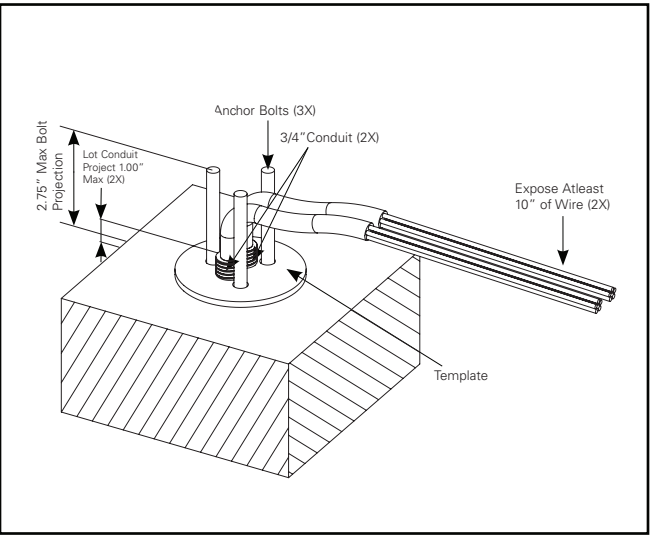
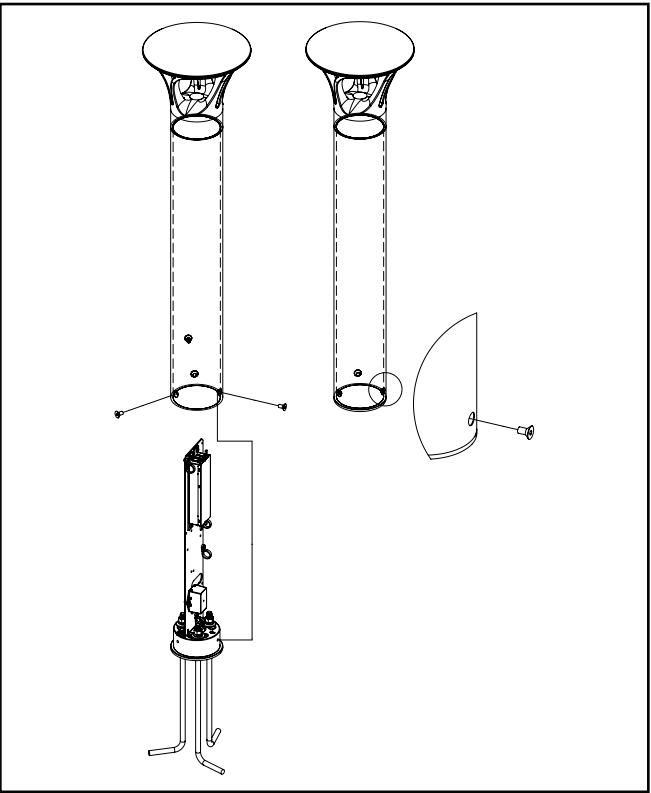
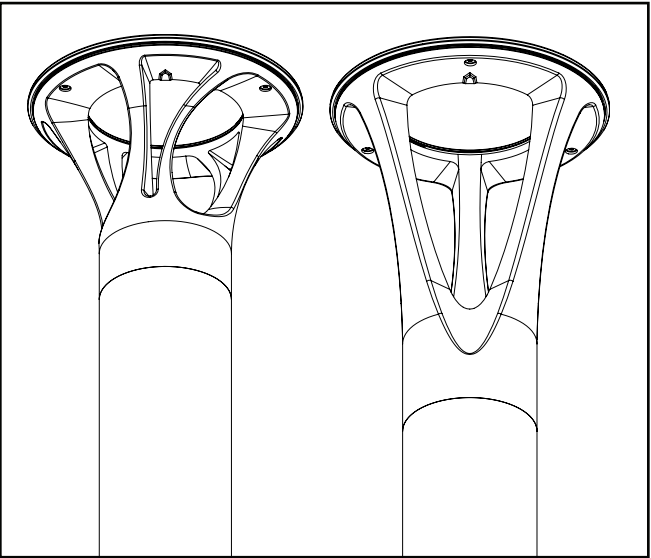

Figure 1.
Figure 4.
Figure 5.
How to Install (Figure 1. - Figure 5.)
1. Install foundation anchors and conduit using supplied anchor template as illustrated noting the intended orientation of the fixture (Figure 1.)
10. Reconnect wiring quick connect if applicable. Then lift fixture and slide it over base driver assembly and align bottom holes with base extrusion (Figure 4) as well as the orientation arrow on the light head. Note that the arrow on the Arbor head should aim towards STREET SIDE and the arrow on the LuxeScape head should aim towards HOUSE SIDE. (Figure 5)